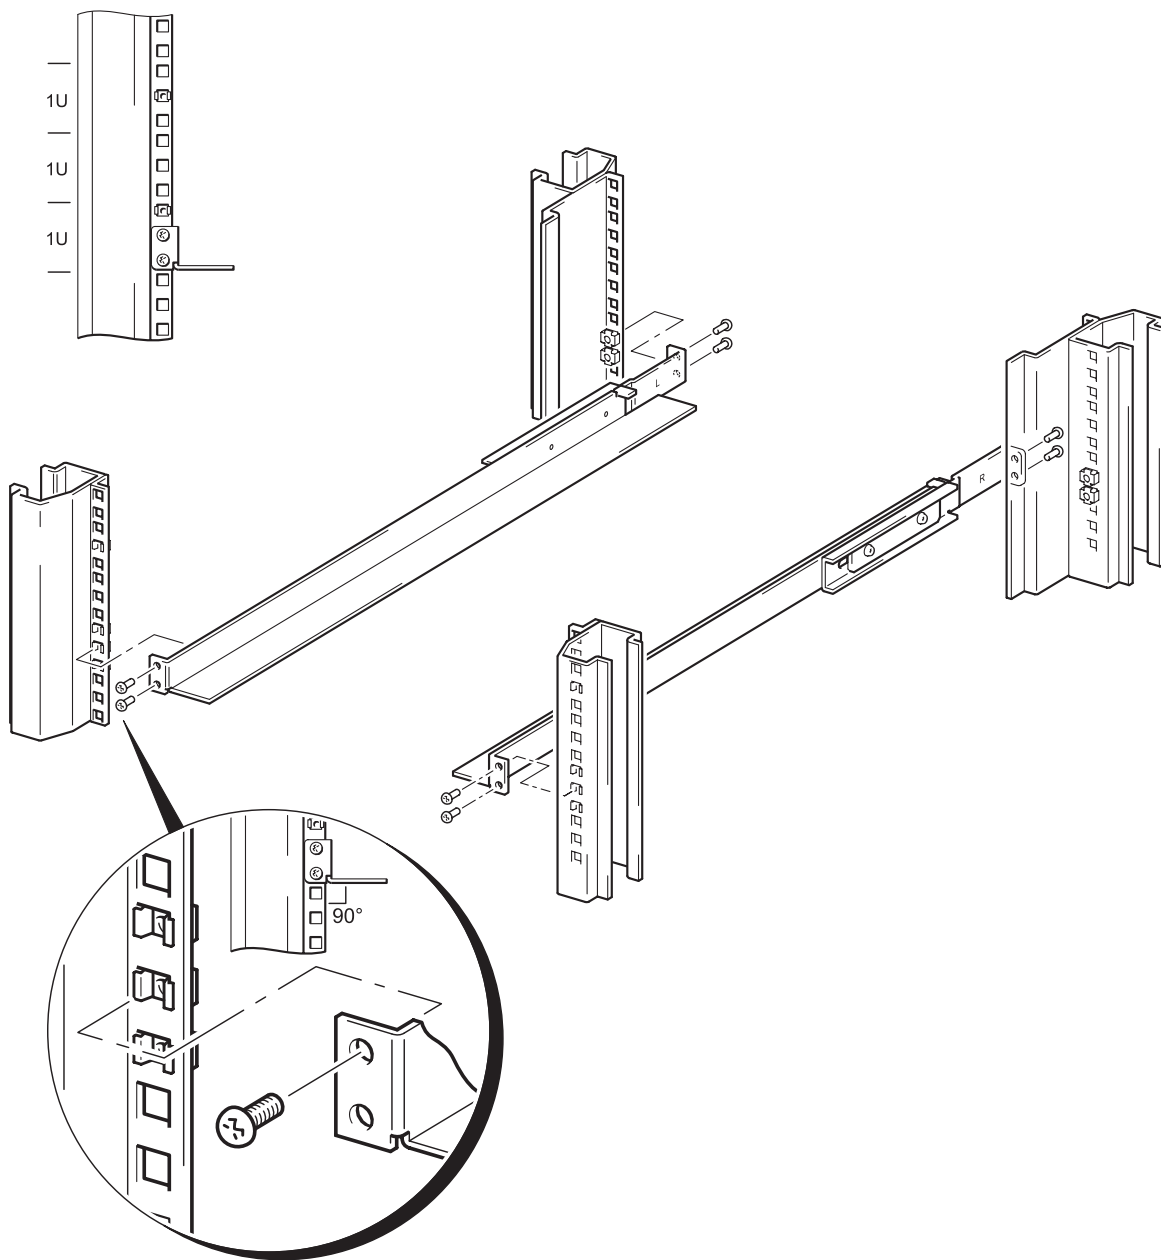

Figure 3b: Install support rails (square hole profile)
- 1 Refer to Figure 3b. Position a support rail so that the flange at the rear of the rail locates over the rear rack column and the two holes in the rail flange align with the two cage nuts. It is much easier if this is done by two persons.